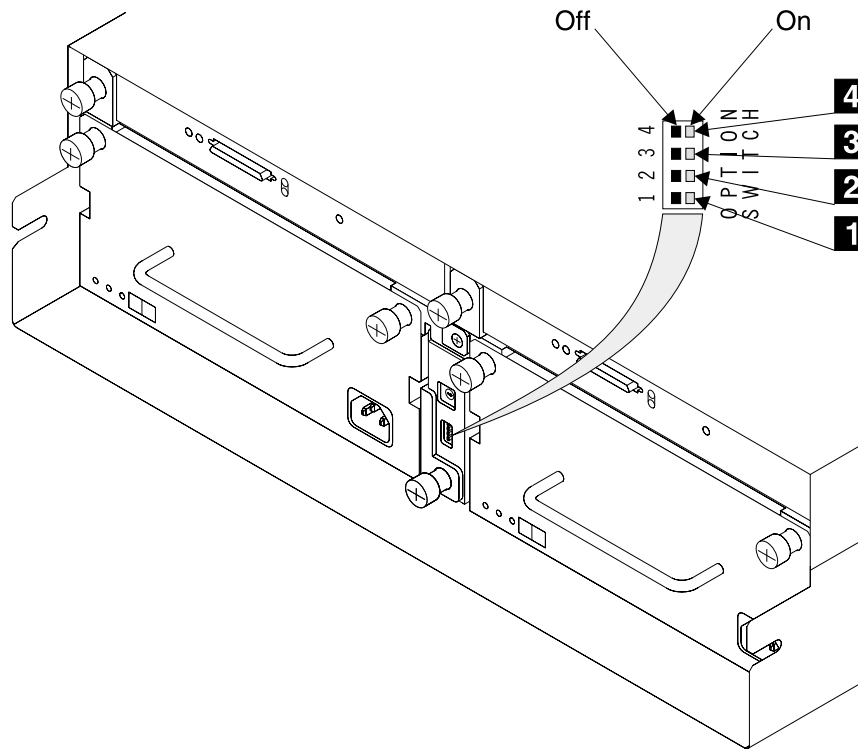

Figure 14. Option Switches
5. Now look at the option switches. Refer to Figure 14.
9. Switch on the DC On/Standby switch **1** on each power supply. If option switch 1 (see Figure 14 on page 21) is on, the green DC PWR light **3** comes on. If option switch 1 (see Figure 14 on page 21) is off, the green DC PWR light **3** stays off. It will come on when the 2104 is connected to the using system.